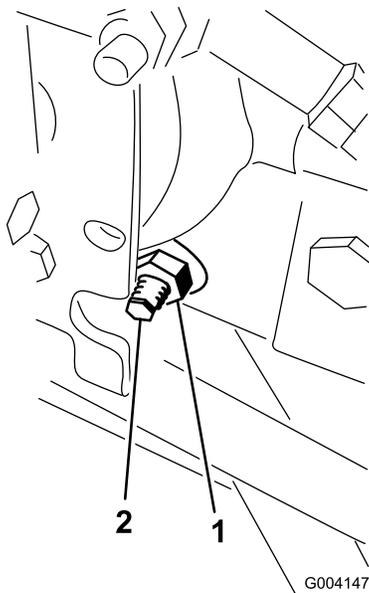

Figure 80
3. On the right side of the hydrostat, loosen the locknut on the traction-adjustment cam (Figure 80).